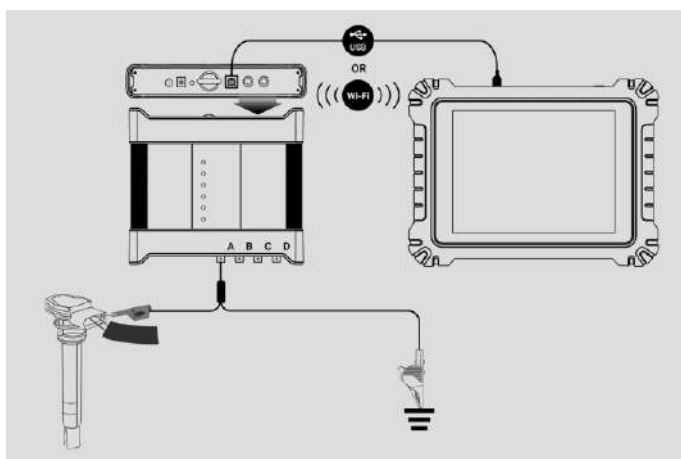

Figure 9-3 Connection Diagram
1. Insert the applicable test lead or probe terminal ends into the input channel(s) to complete the connection (refer to **Figure 9-3**).